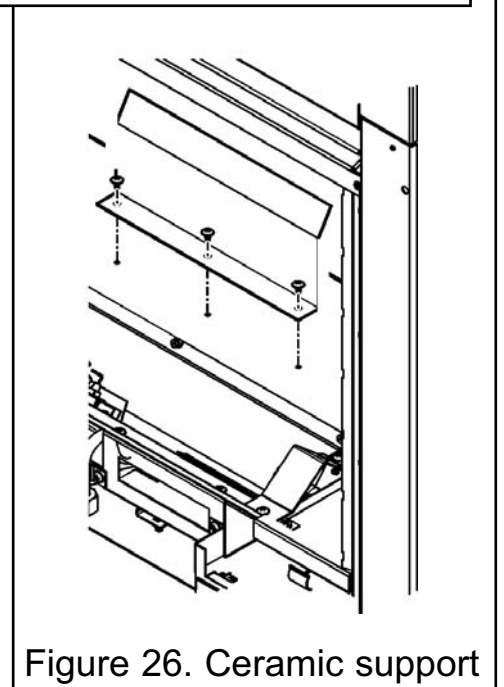

Figure 26. Ceramic support
Locate the ceramic support to the base of the convection box using No.8 x 3/8" screws supplied (See figure 26).
3. Gently lower the top of the ceramic side wall towards the burner being careful not to catch the bottom on the burner brackets (Reference figure 26). Lift the side walls clear of the convection box.